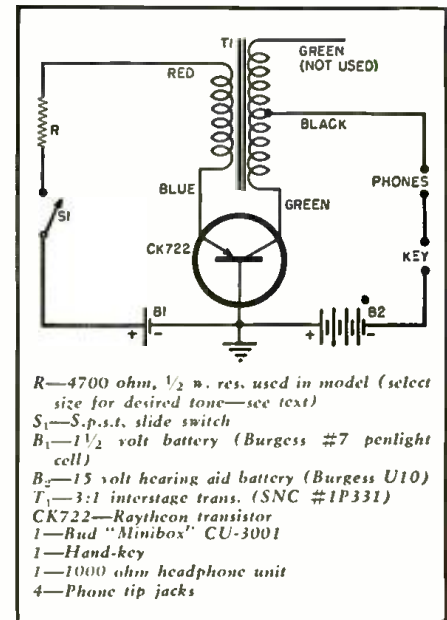

Fig. 3. Complete schematic of oscillator.
Referring to the diagram given in Fig. 3, a Raytheon ("p-n-p" type) CK722 transistor is connected as a grounded-base audio oscillator. Feedback is obtained by means of T_1 , a 1:3 interstage audio transformer.
Almost any standard 1:3 interstage audio transformer should give satisfactory results for use as T_1 , although the builder may find it necessary to experiment somewhat with the lead connections. The author originally tried the entire secondary winding (the two green leads, Fig. 3), but found that better results were obtained when only half the winding was used.
Fig. 3. (A) Simplified schematic of cathode-follower rectifier. (B) 60-cycle waveform showing effect of cathode-follower bias. When bias is +100 volts, cathode "rides" at approximately +100 and conducts only during shaded part of cycle. (C) Regulation curves.
Fig. 3. Inside the 6"x9"x5" box. The Bakelite strip mounted on the choke provides a point for fastening choke to rear panel, further bracing the chassis for assured v.f.o. stability.